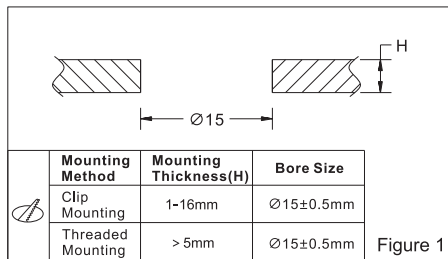

Figure 1
1. Mounting thickness & bore size. (Figure 1)